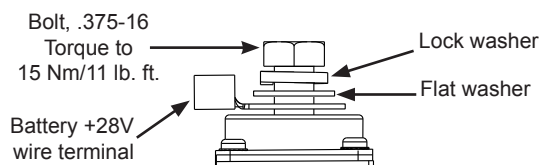

Figure 2: +28V Terminal Hardware Stacking Order
5. Connect vehicle 28V battery positive cable to alternator +28V terminal. Install hardware on +28V terminal in stacking order shown in Figure 2. Torque to 15 Nm/11 lb. ft.